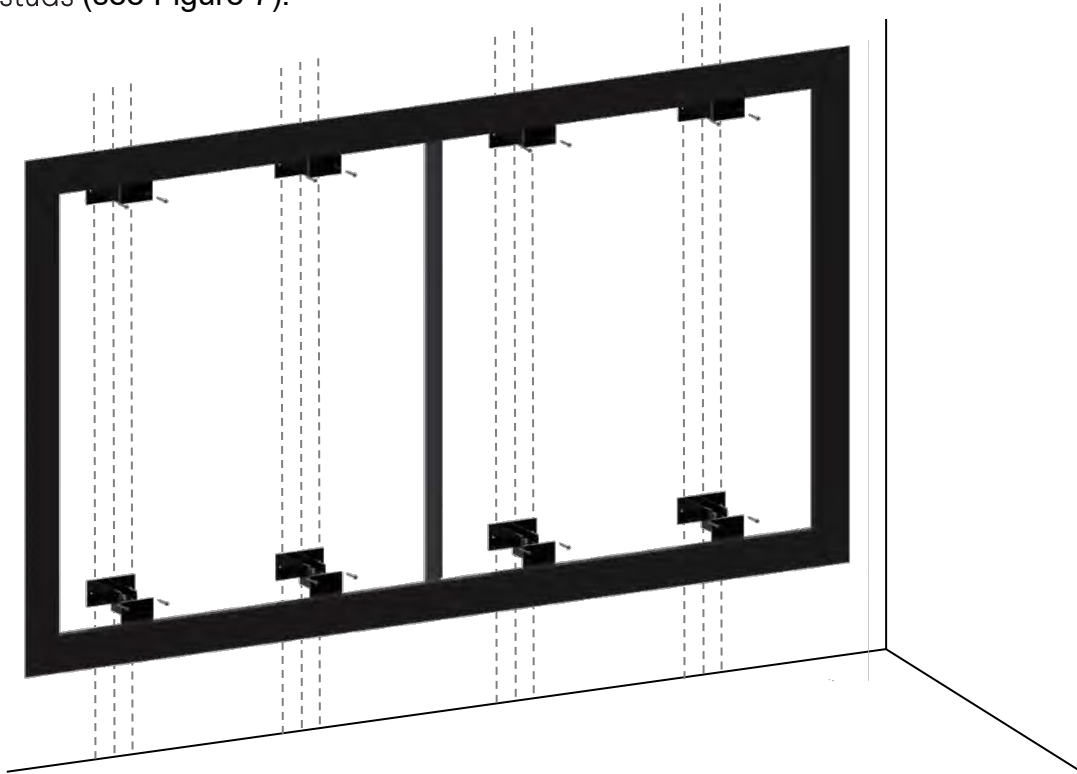

Figure 7: Mounting the frame with the Telescoping Mounts
9. Use the provided 2" screws or other appropriate fasteners to secure the Telescoping Mounts to the wall studs (see Figure 7).